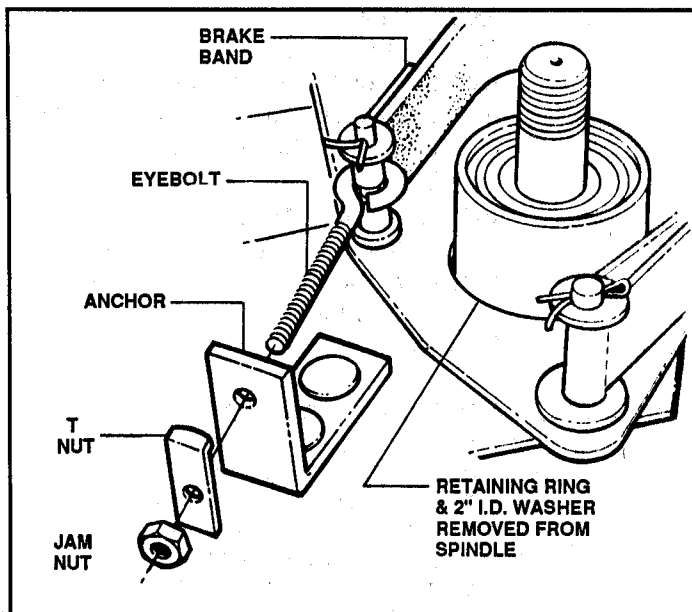

FIGURE 3.16
3. Remove idler arm retaining ring. See Figure 3.16.